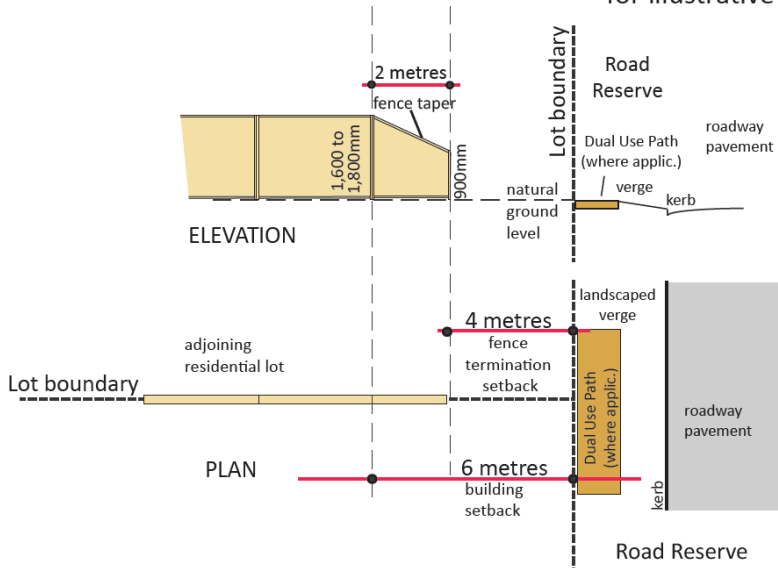

Figure 1.2
- b) it is in fact the Secondary Street boundary fence.Refer to Figures 1.2 and 1.3.